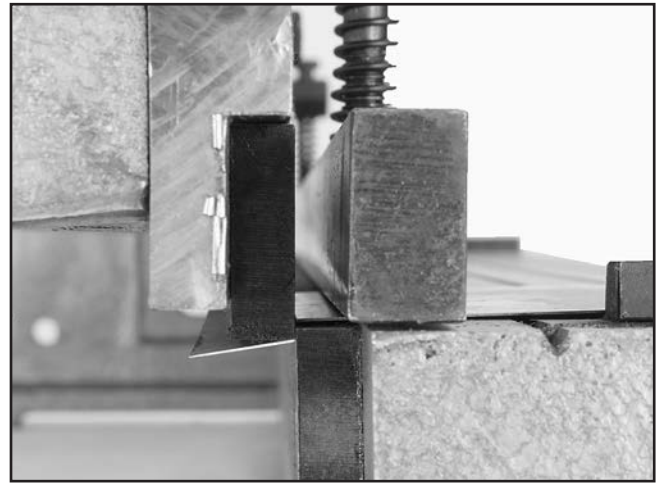

Figure 34. Shearing in progress.
3. Keeping all body parts away from the blade, use the work lever to begin the shearing action of the two blades. The shearing action begins at the left of the workpiece and cuts to the right (**Figure 34**).